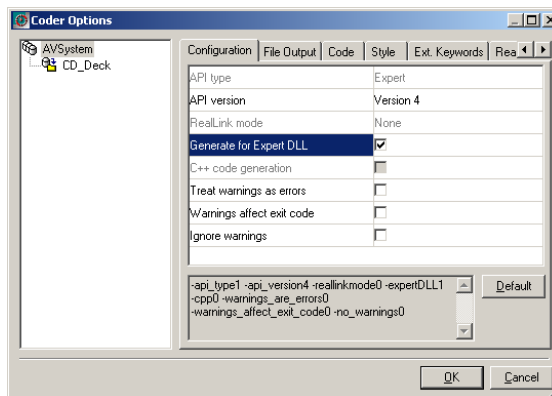

Figure 207: Coder Project Options dialog box, Configuration tab
- 2 Choose Project>Options>Code Generation.... The Coder Options dialog box is displayed. See *Figure 207*, page 301.